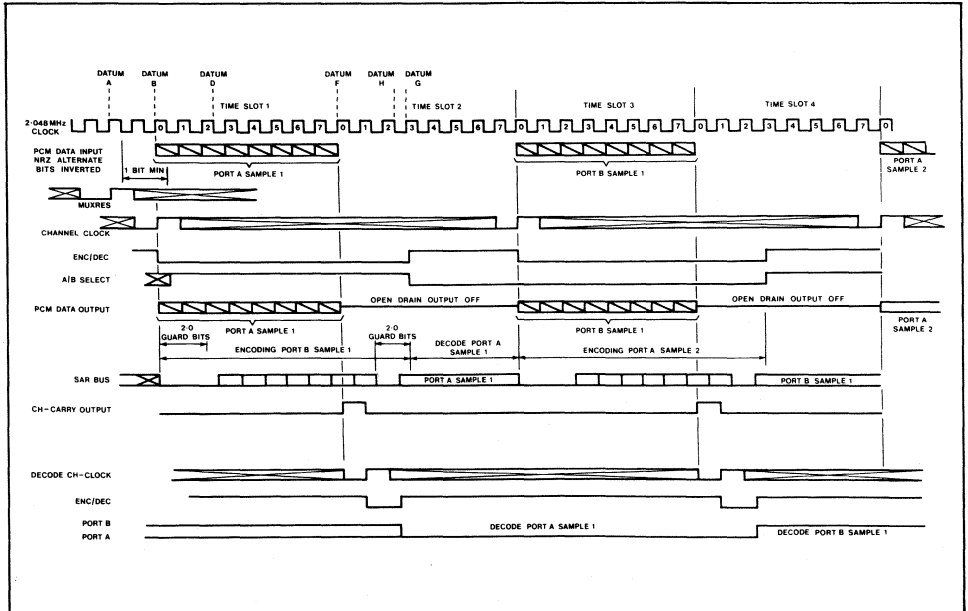

Fig.3a Codec interfacing waveforms
1. MUXRES will reset AB SELECT output to a 'High' when either a channel clock or a decode only channel clock is received, see timing diagram (Fig.3a).
standard 2.048M bit PCM frame and the 8 bit words associated with a particular time slot are loaded and unloaded on receipt of a channel clock. If the Codec is being used in the 'decode only' mode then the time slot immediately preceding the decode channel clock is loaded. The relationship between analogue samples and digital PCM samples is shown in Fig.3a. Encoded analogue samples are output to the PCM highway by the next channel clock and decoded analogue samples are output to the appropriate analogue port immediately following the encode cycle. The selection of ports is controlled by the MJ1480 and alternate channel clocks select port A or port B. Synchronisation of the internal multiplexer to the PCM frame is accomplished by the MUXRES input.